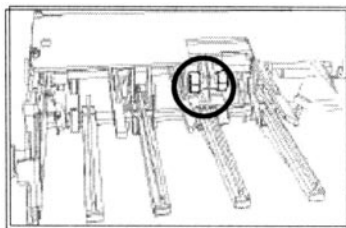

Figure 5-16. Location of the rubber rollers on the BCU.
4. Inspect the rubber rollers (Refer to Figure 5-16) on the BCU. Make sure that there are no cracks the surface the rollers. If necessary change the rollers using P/N A008841 Rubber Roller.